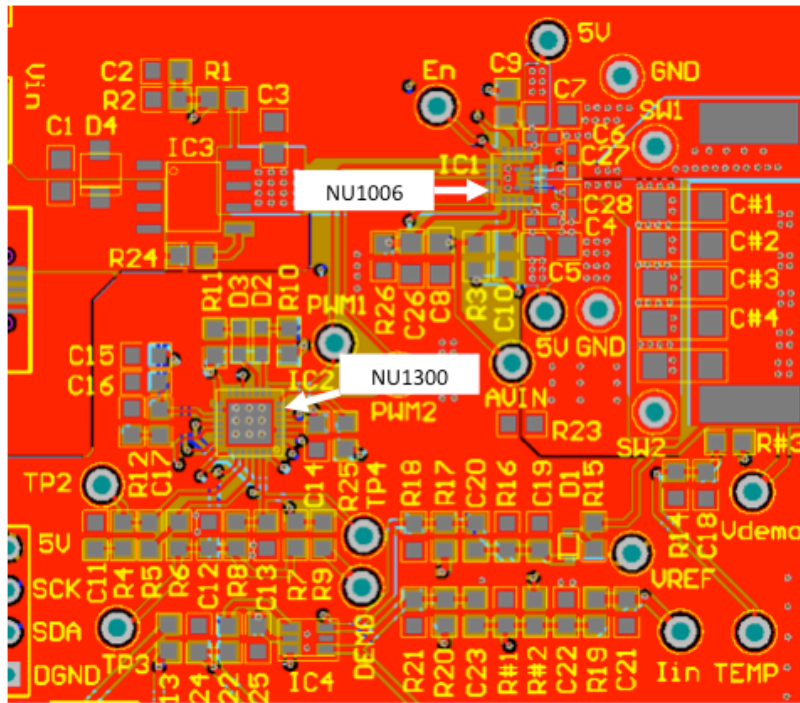

Figure 12 Top Layer
- Separate the analog ground plane from the power ground plane, and use only one point to join them. Please refer to the R23 of Figure 12.